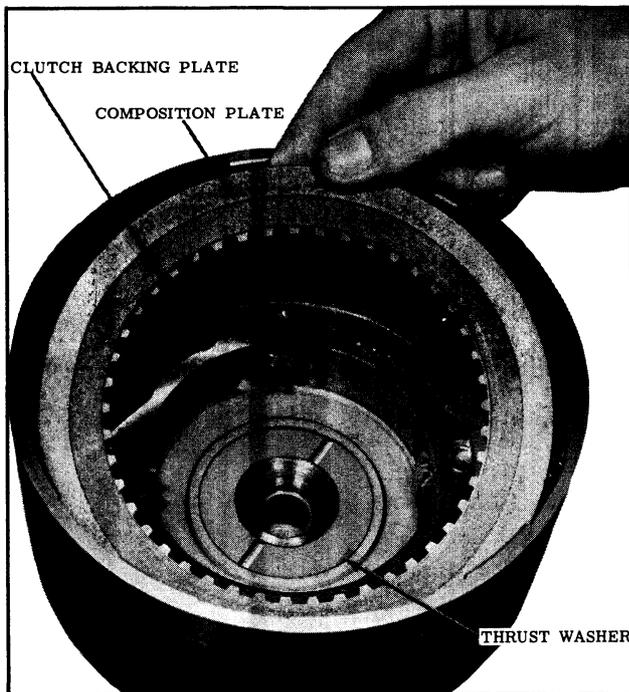

Fig. 3-73 Installing Clutch Plates
- Lubricate composition plates with Hydra-Matic oil as they are installed. Place a composition plate on the backing plate and install a steel plate. Alternate until 7 composition plates and 7 steel plates have been installed. (See Fig. 3-73)